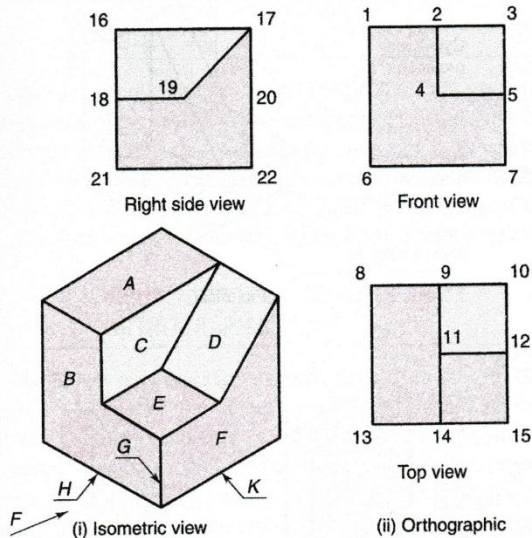

Fig. 5.13 Identification of edges and surfaces
Draw the three views of the objects shown in Fig. 5.13 (i) Also, identify the surfaces and edges marked and tabulate them.
**Solution** Refer Fig. 5.13(ii) and Table 5.3